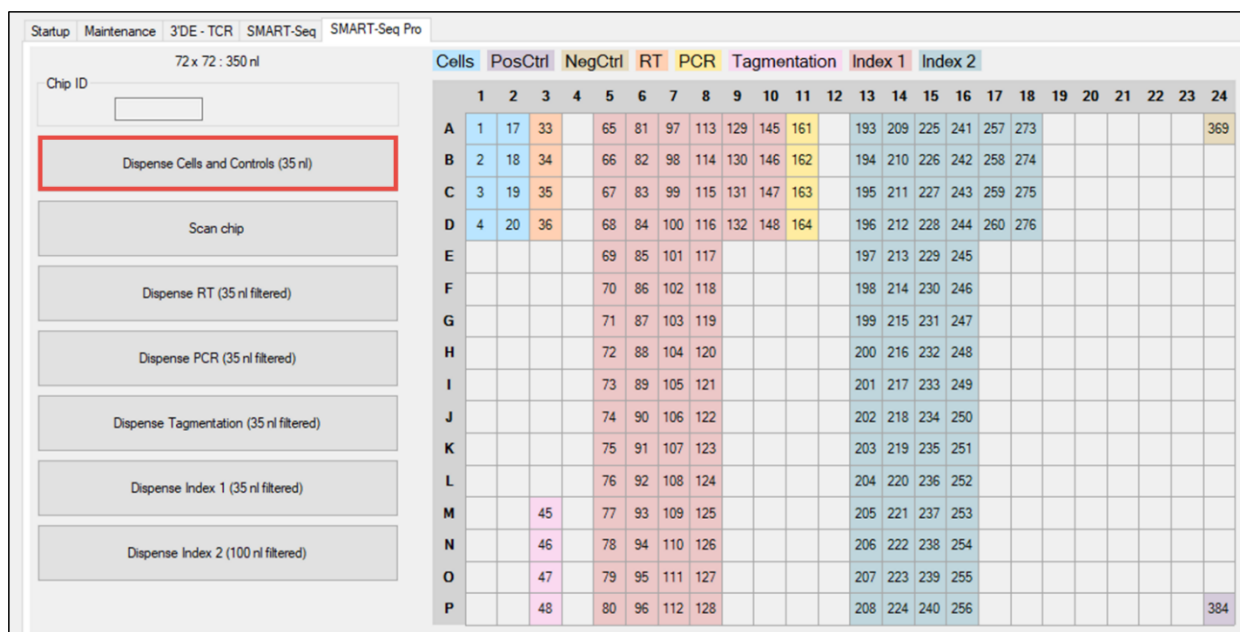

Figure 7. Using CELLSTUDIO software to dispense cells into the ICELL8 350v Chip.
11. In CELLSTUDIO software, click the [Dispense cells and Controls (35 nl)] button (Figure 7).